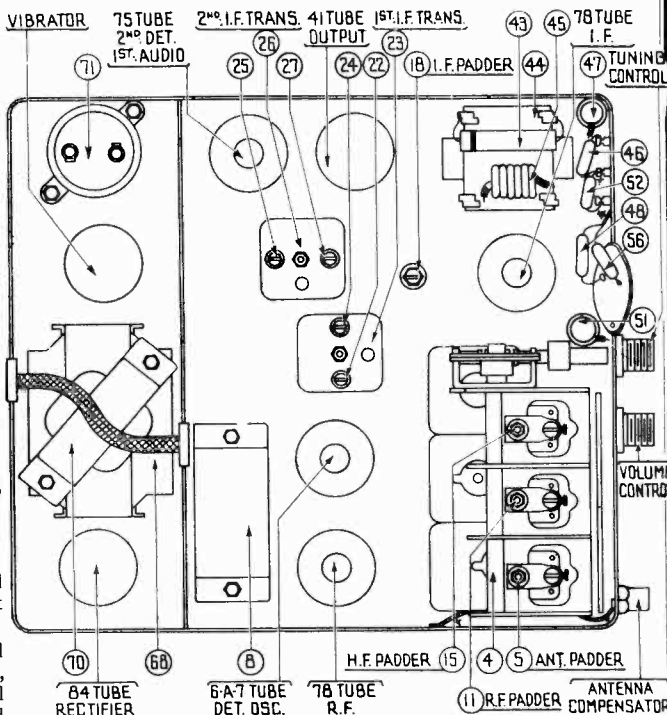

FIGURE 4
Both the primary and the secondary padders are placed side by side in the top of the transformer shield can. The adjusting screws are accessible thru the holes in the top of the shield. (See Figure 4).
Adjust the secondary screw padder (27) on the second I. F. transformer for maximum reading on the output meter. Then adjust the primary screw padder (25) for maximum reading. (See Figure 4 for location of padders).
Connect the generator lead to the grid cap of the 6A7 tube in series with a .1 mfd. condenser (without removing the grid cap). Adjust the secondary screw padder (24) on the first I. F. transformer for maximum reading on the output meter. Then adjust the primary screw padder (22) for maximum reading. Readjust padders (25) and (27) with the generator lead connected to the type 6A7 tube. (See Figure 4 for location of padders).